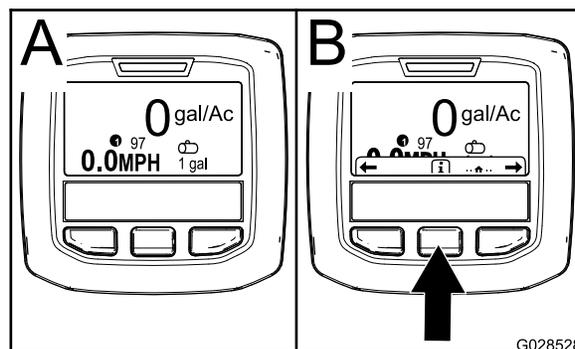

Figure 18
2. After approximately 15 seconds, the home screen will appear; press the center selection button to display the information context (Figure 18).